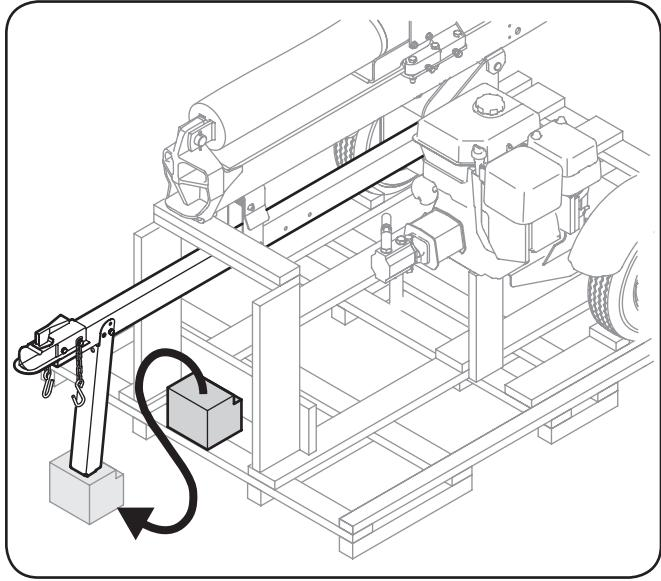

Figure 4-5
- Carefully pry the small block of wood from the base of the crate and position it beneath the jack stand. See Figure 4-5.